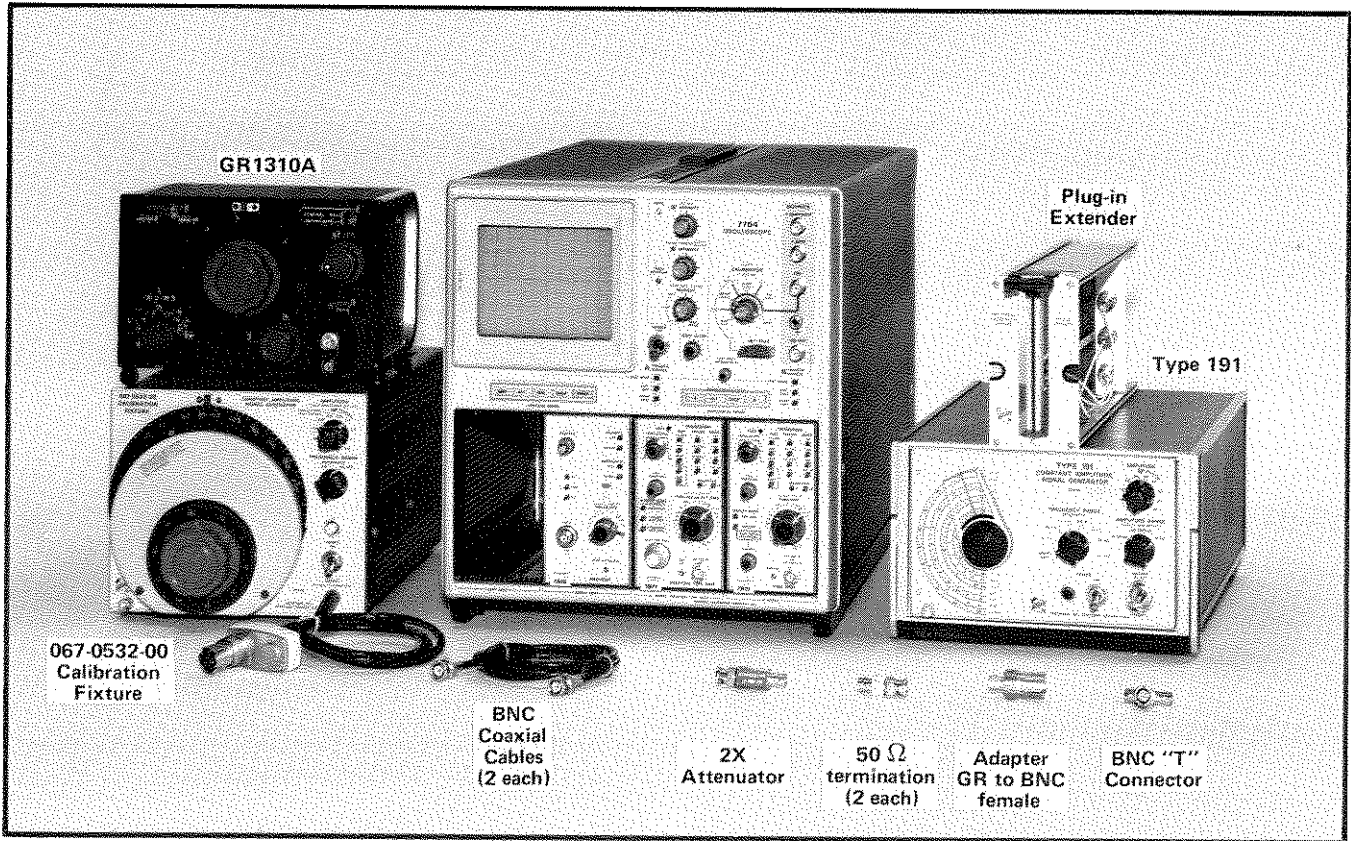

Fig. 5-4. Test equipment required for Steps 10 and 11.
a. Test equipment required is shown in Fig. 5-4.